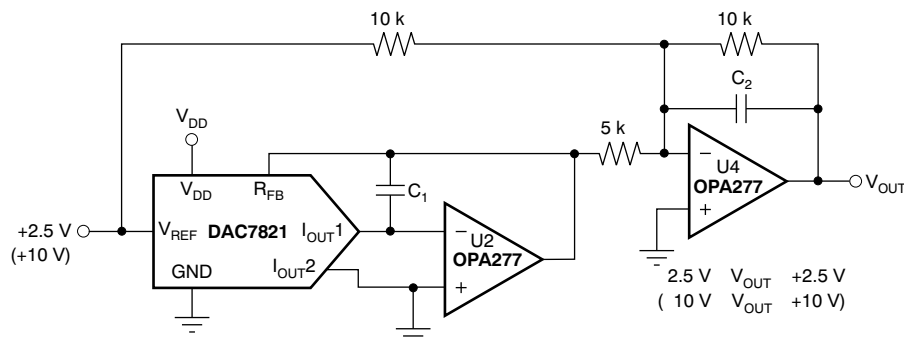

Figure 29. Bipolar Output Circuit
Some applications require full 4-quadrant multiplying capabilities or bipolar output swing. As shown in Figure 29, external op amp U4 is added as a summing amp and has a gain of 2X that widens the output span to 5 V. A 4-quadrant multiplying circuit is implemented by using a 2.5 V offset of the reference voltage to bias U4. According to the circuit transfer equation given in Equation 2, input data (D) from code 0 to full-scale produces output voltages of $V_{OUT} = -2.5\text{ V}$ to $V_{OUT} = +2.5\text{ V}$.
External resistance mismatching is the significant error in Figure 29.